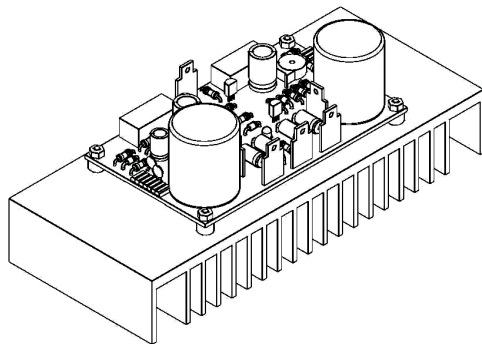

Fig. 3.0
- Slide the PCB over the 4 bolts, and fix using 4 nuts (Fig 3.0).